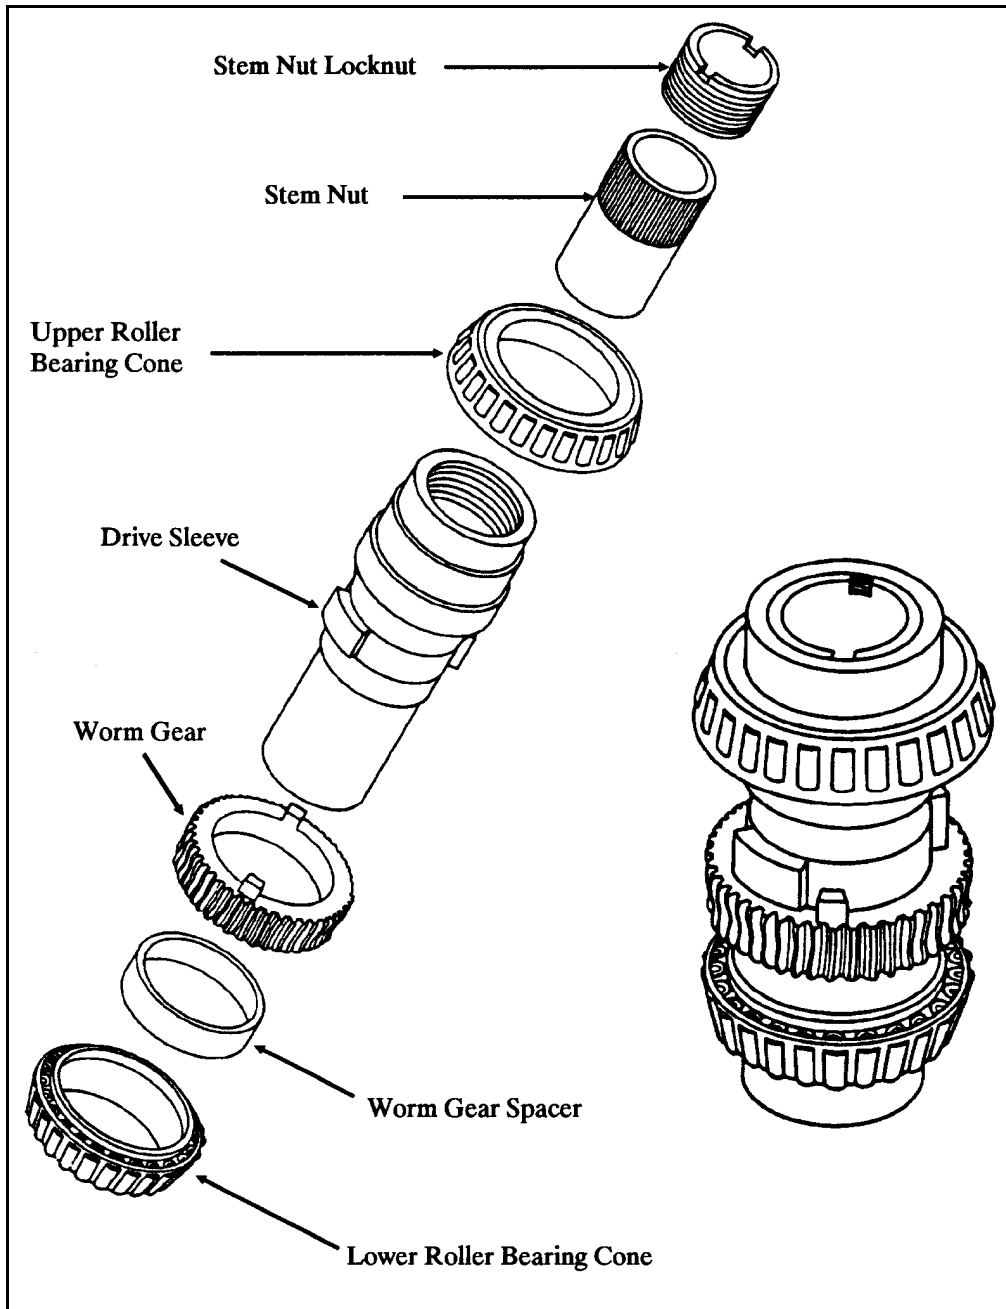

Figure 6-18 Drive Sleeve
22. Stem Nut Removal and Drive Sleeve Disassembly Refer to Figure 6-18
22b. **Drive Sleeve Disassembly and Inspection** Refer to Figure 6-18